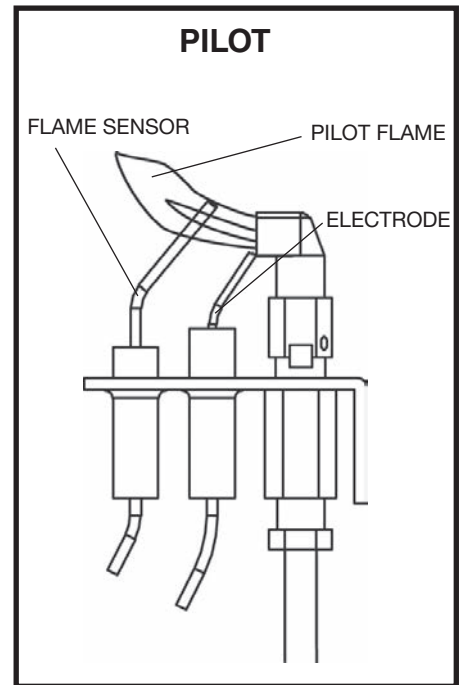
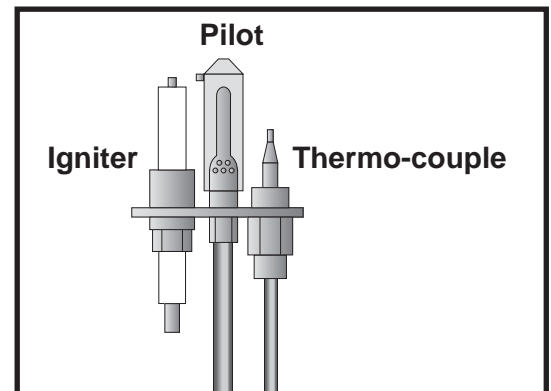

Figure 27: SIT pilot assembly.
Figure 28: Maxitrol pilot.
- Check the pilot system for proper flame size and operation. Clean pilot free of soot, dust or any other deposits (Figure 27 and Figure 28). Have a qualified service person adjust the pilot flame.